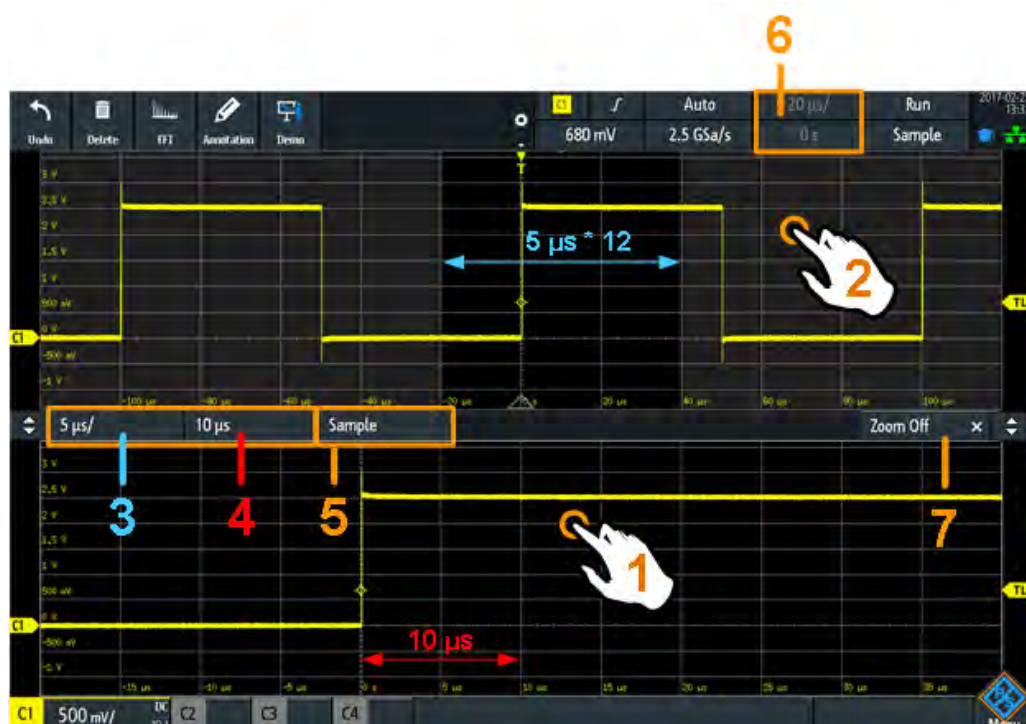

Figure 6-1: Display of horizontal zoom: zoom in bottom window, normal waveform in upper window
- Tap the zoom scale or zoom position label in the zoom window and enter a value on the keypad. These settings are horizontal values, which take effect in horizontal and vertical zoom windows. See number 3 and 4 in Figure 6-1.